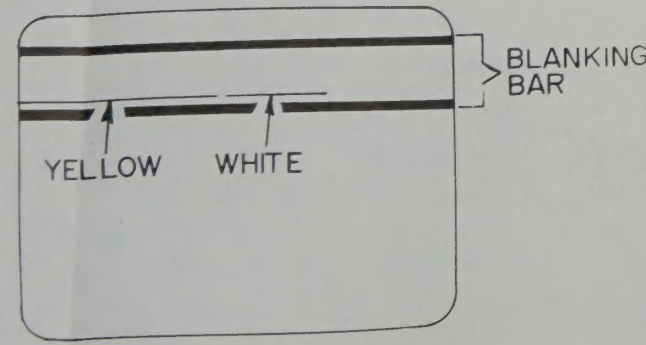

FIGURE 1 APPEARANCE OF VIR SIGNAL
When transmitted, the VIR signal can be seen as a YELLOW and WHITE line contained in the blanking bar portion of a normally operating receiver's picture (Fig. 1). You can observe the blanking bar by either decreasing the height, rolling the picture, or both. It might also be possible to call the station and confirm VIR transmission. DO NOT BEGIN TROUBLESHOOTING THE MODULE UNTIL YOU ARE SURE THAT A REFERENCE SIGNAL IS BEING TRANSMITTED BY THE STATION(S) BEING RECEIVED.